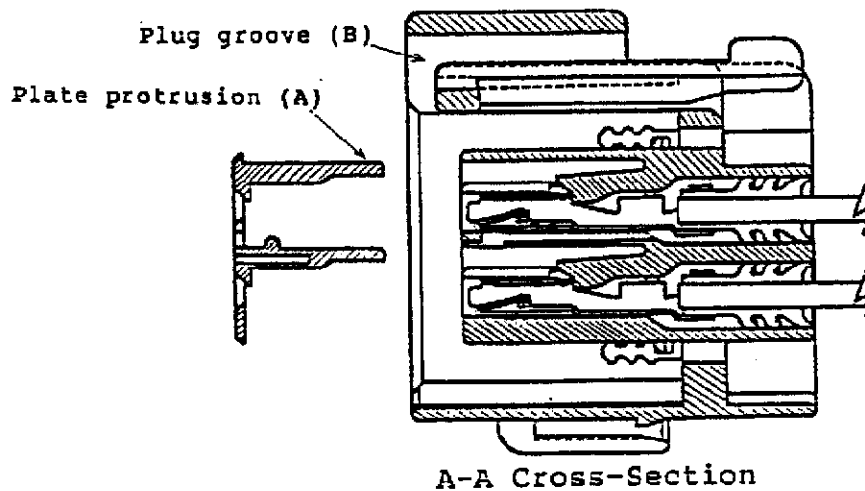
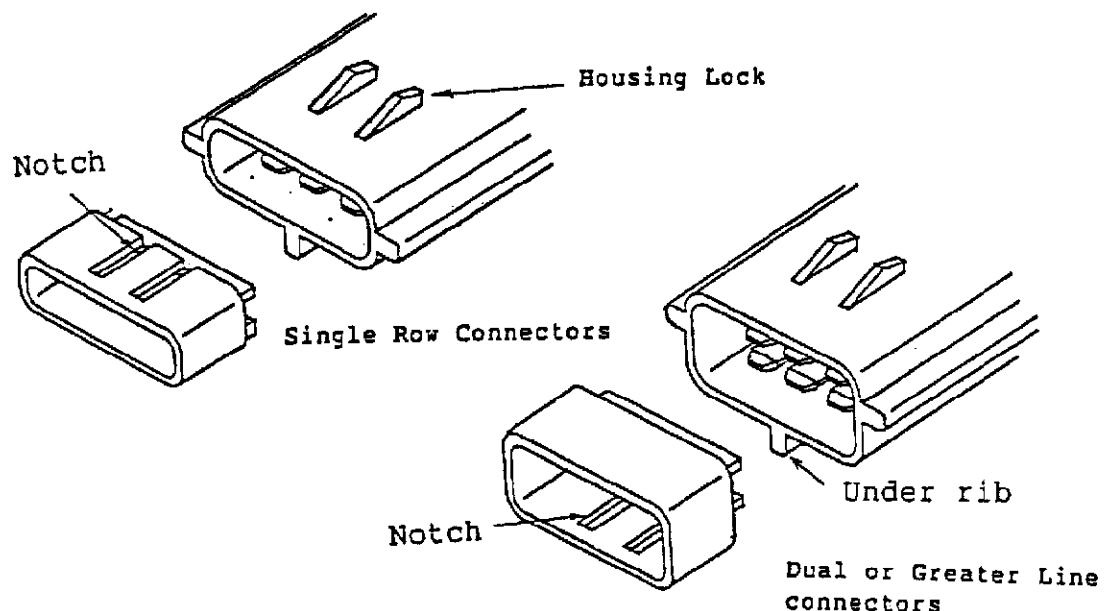

Fig. 5 Application of Double Lock Plate for Plug Housing:
Fig. 6 Directivity of Cap Housing Plate
The plug housing should be inserted so that the plate protrusion (A) is inserted in the groove (B) of the housing as shown in Fig. 5. The cap housing should be inserted so that for single row connectors (i.e. 1, 2 & 3-pos.) the notch of the double lock plate can come to the housing lock side, and for connector of more than 2 lines (4, 6, 8, 10, 12 poles etc.) the notch of the double lock plate comes to the under lib side, as shown in Fig. 6.